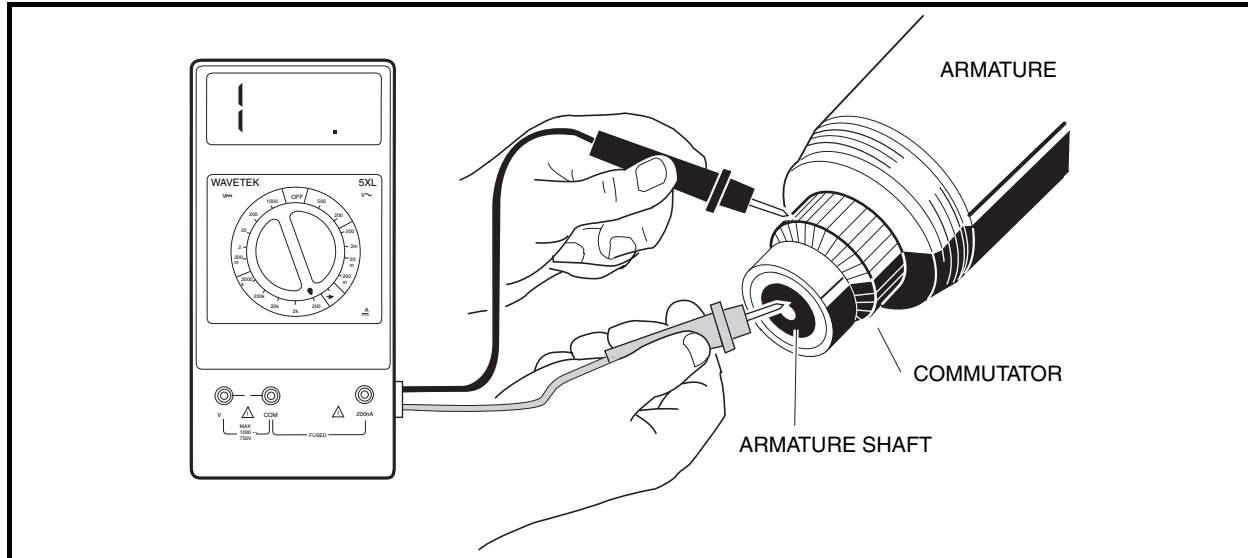

Figure 13-12 Armature Ground Test
1. Use a multimeter set on 200 ohms and place the positive (+) probe on the commutator bars and the negative (-) probe on the armature core. The reading should be no continuity. If the reading is incorrect, replace the armature and the two bearings (**Figure 13-12, Page 13-8**).